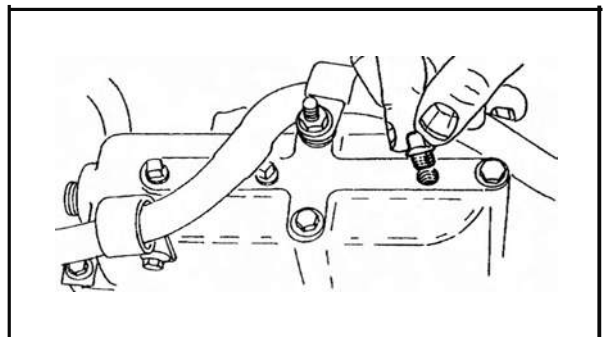

Figure 2.2-2. - Checking Oil Level in Reservoir
4. The oil level in the oil reservoir should be checked. Remove the inspection plug in top of reservoir (Figure 2.2-2.) to check oil level. Normal oil level is within 1/2 inch below the top of the reservoir. (If the engine has not been operated for some time, oil in the reservoir may drain into the crankcase. The engine may start hard or start and not continue to run.) Filling the res-